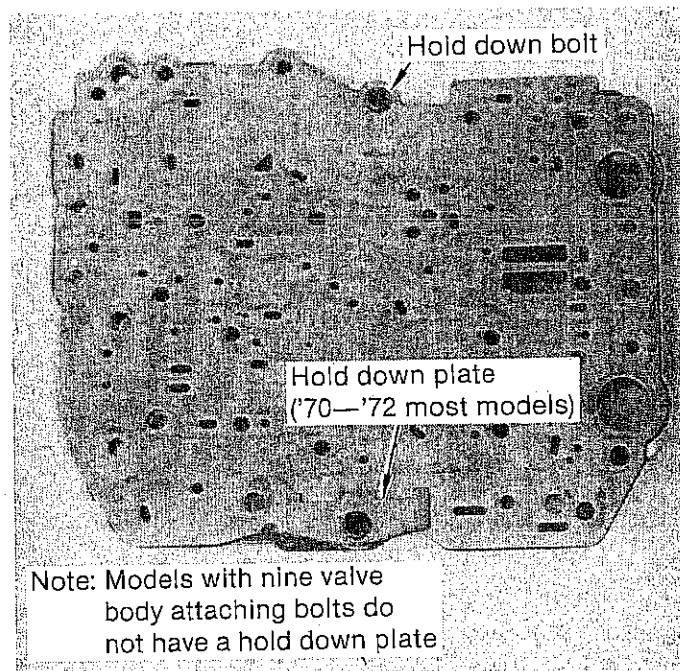

FIGURE 39
STEP 10. Place the transfer plate assembly in front of you with the separator plate up. (See Fig. 39) Note the position of the hold-down plates. Remove the hold-down plates and the separator plate. **Pinto only:** There will be a check valve and spring under the separator plate. Remove it and set it aside.
Install separator plate in place on transfer plate. Do not use a gasket. Install hold-down plates in their proper positions. (See Fig. 39) Install bolts in place and tighten bolts finger tight.